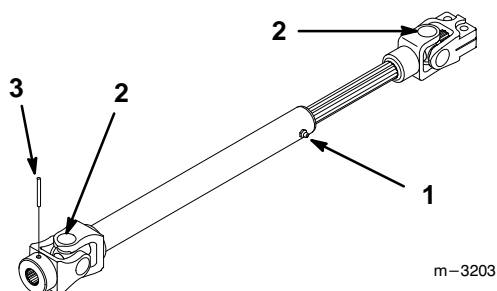

Figure 6
2. Grease the fittings on drive shaft and universal joints (Fig. 6).
3. Temporarily install the roll pin 3/16" x 2" part-way into the hole in the end of the unconnected universal joint to store it until a mower deck is installed (Fig. 6).